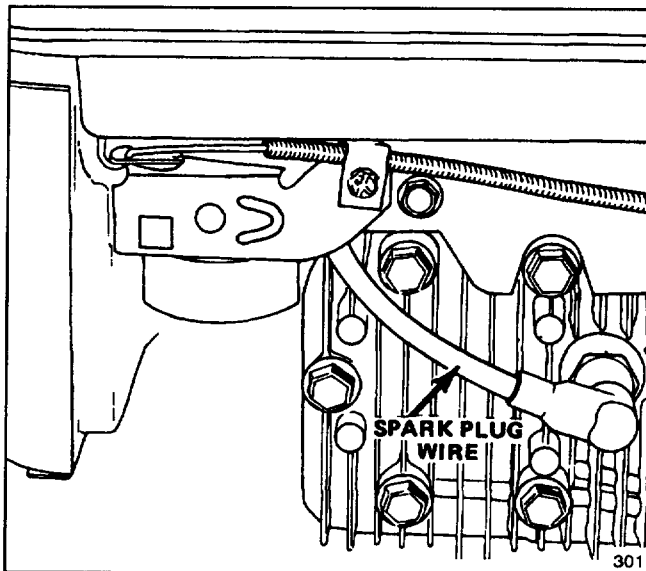

Figure 13
2. Push spark plug wire onto spark plug (Fig. 13).
1. Stop the engine and pull the wire off the spark plug (Fig. 13).
1. Stop engine and pull wire off spark plug (Fig. 13). Remove key from switch on electric start model.
1. Stop engine and pull wire off spark plug (Fig. 13).